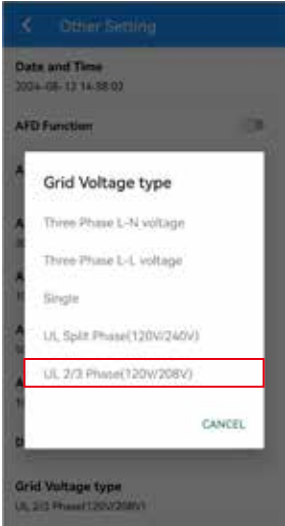

Figure 4-3 Grid Voltage type
2. Go to Console > Other Setting > Grid Voltage type to select the correct phase type: UL 2/3 Phase (120V/208V). (*Figure 4-3*)